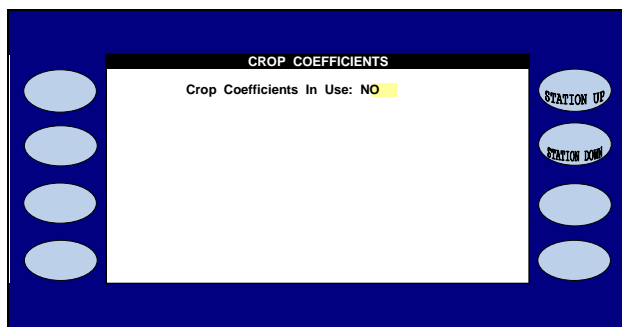

Figure 8
18.  Press the **CROP COEFFICIENTS** Menu key, this will take you to the Crop Coefficients screen (Figure 8).